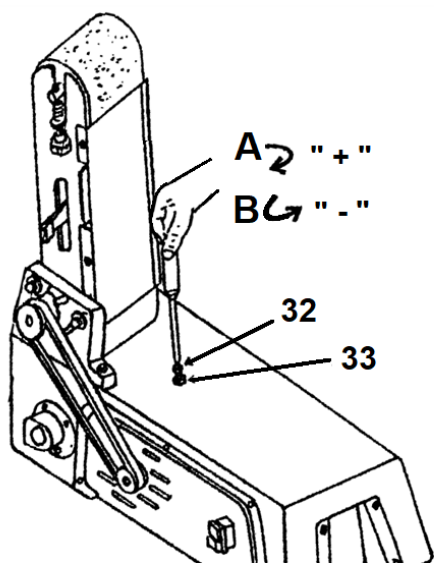

Figure 10-1: V-belt tensioning
Loosen the nut (33, Fig. 10-1) and adjust the V-belt tension with the screw (32). Turning screw clockwise (+) tensions the V-belt.